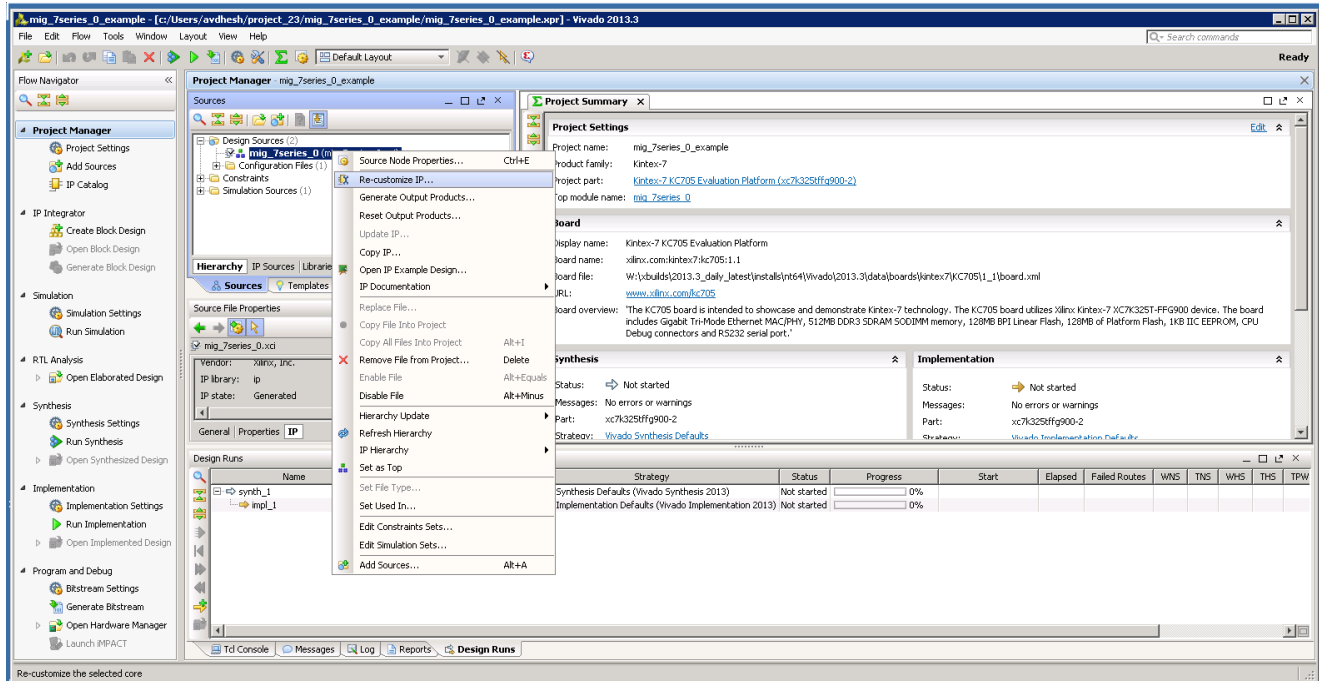

Figure 3-34: Recustomize IP
- Recustomization of the MIG IP core can be done by using the **Recustomize IP** option. It is not recommended to recustomize the IP in the example_design project. The correct solution is to close the example_design project, go back to original project and customize there. Right-click the XCI file and click **Recustomize IP** (Figure 3-34) to open the MIG GUI and regenerate the design with the preferred options.